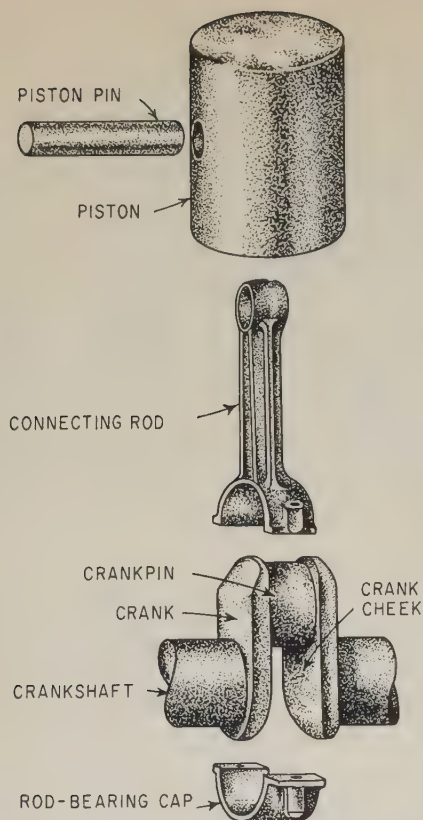

FIG. 9-5 Piston, connecting rod, piston pin, and crankpin on an engine crankshaft in disassembled view. The piston rings are not shown.
**○ 9-5 THE CRANK** The piston moves up and down in the cylinder. This up-and-down motion is called reciprocating motion. The piston moves in a straight line. This straight-line motion must be changed to rotary, or turning motion, in most machines, before it can do work. Rotary motion is required to make wheels turn, a cutting blade spin, or a pulley rotate. To change the reciprocating motion to rotary motion, a crank and connecting rod are used (Figs. 9-5 and 9-6). The connecting rod connects the piston to the crank.